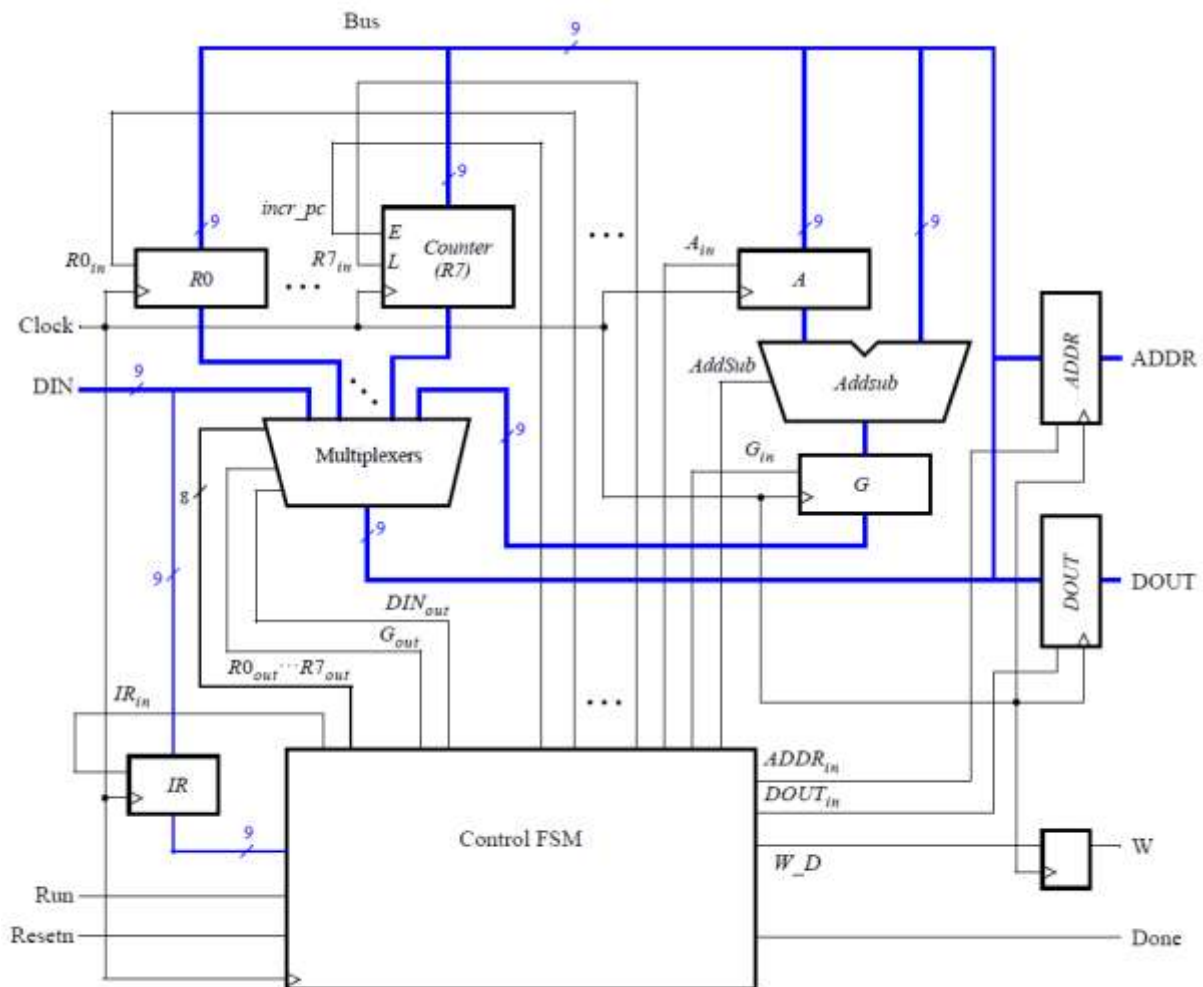

Figure 3. An enhanced version of the processor.
- II. In this part you are to design the circuit depicted in Figure 3, in which a memory module and counter are connected to the processor from Part I. The counter is used to read the contents of successive addresses in the memory, and this data is provided to the processor as a stream of instructions. To simplify the design and testing of this circuit we have used separate clock signals, *PClock* and *MClock*, for the processor and memory.
A schematic of the enhanced processor is given in Figure 3. In this figure, registers R0 to R6 are the same as in Figure 1, but register R7 has been changed to a counter. This counter is used to provide the addresses in the memory from which the processor's instructions are read. We will refer to R7 as the processor's *program counter* (PC), because this terminology is common for real processors available in the industry. When the processor is reset, PC is set to address 0. At the start of each instruction (in time step 0) the contents of PC are used as an address to read an instruction from the memory. The instruction is stored in IR and the PC is automatically incremented to point to the next instruction (in the case of **movi** the PC provides the address of the immediate data and is then incremented again).
Figure 3 shows two registers in the processor that are used for data transfers. The ADDR register is used to send addresses to an external device, such as a memory module, and the